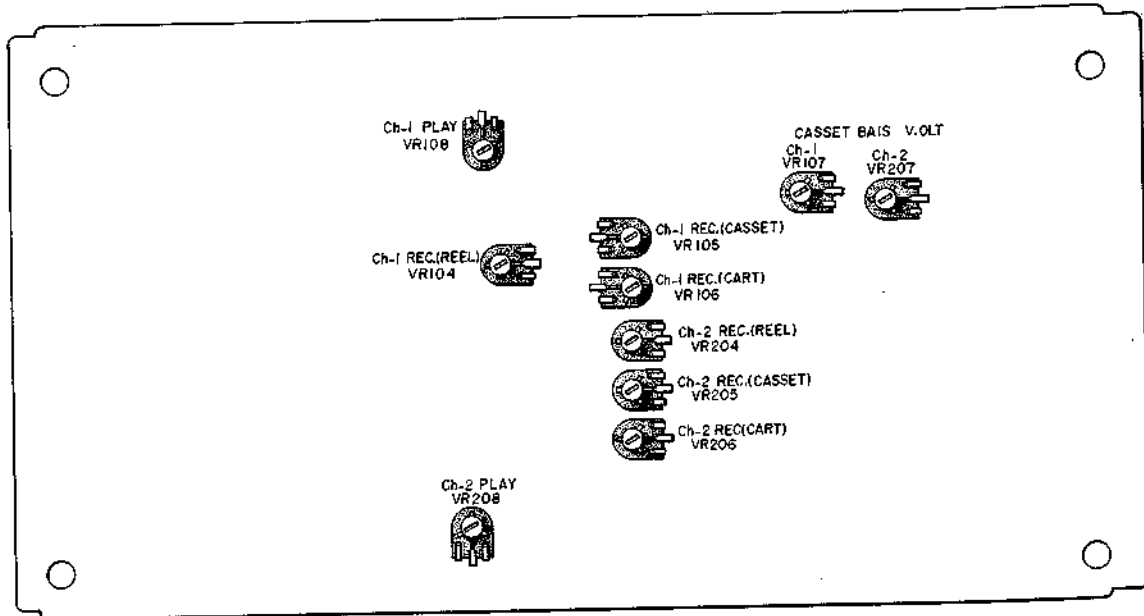

Fig. 3
- Cassette (See Fig. 3)
(A) Playback Output Level (Pre-Amplifier Adjustment (REEL) (Ref. Fig. 3)
- c) Adjust VR-108, and VR-208 (semi-fixed resistor 30 KB Fig. 3) of the pre-amplifier so that the Line Output Voltage is 1.228 V (± 4 dB).